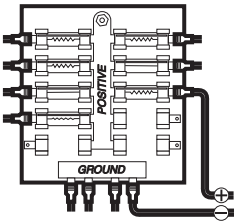

Figure 3
- 1a. If a fuse terminal is available, use crimp-on type electrical connectors (not included) that match the terminal on the fuse panel. Attach the black wire to ground (-), and the red wire to positive (+) 12 VDC power (Figure 3). Install a 1 amp fuse (not included) for protection of the unit. Humminbird is not responsible for over-voltage or over-current failures.